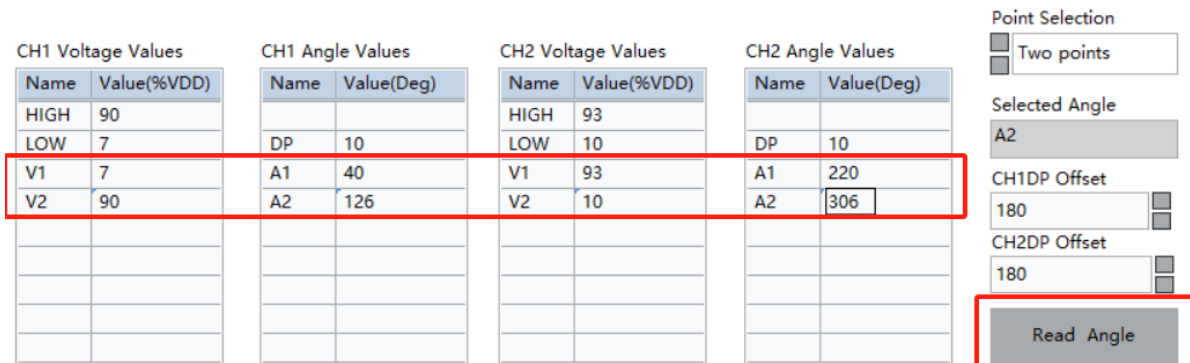

Figure 5.2.11 Read A1/A2 angle value
- Click on the "Angle Value" box corresponding to "A1" in CH1, place the magnet (sensor) angle at the first position that needs to be programmed, stabilize it, and then click the "Read Angle" button to read the current chip angle value, which will be displayed in the angle values "A1" of CH1 and CH2. The current read chip angle is 40 ° for "A1" of CH1, and 220 ° for "A1" of CH2; The same way, the angle value of "A2" for CH1 is 126 °, and the angle value of "A2" for CH2 is 306 ° (Figure 5.2.11).